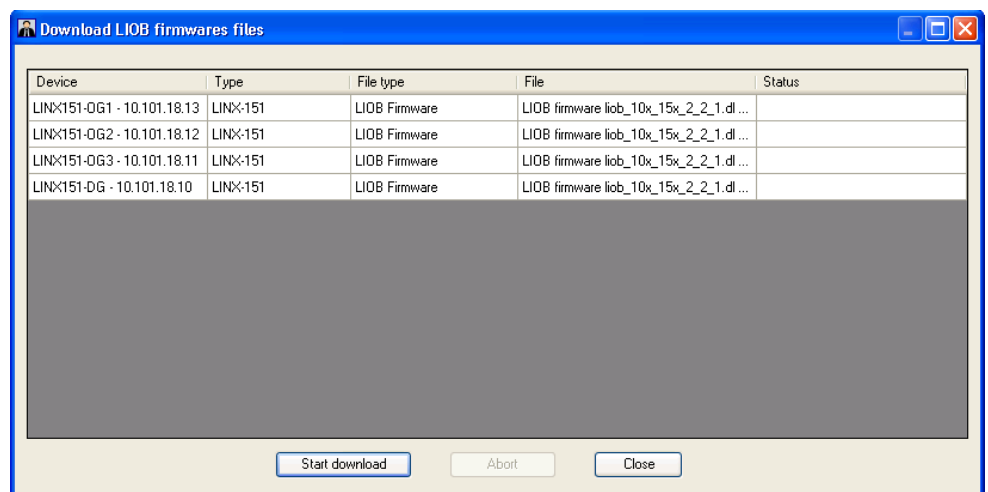

Figure 207: Download L-IOB Firmware File Dialog
2. The **Download L-IOB firmware files** dialog opens as shown in Figure 207. This dialog displays a list of L-INX devices and the L-IOB firmware files which will be downloaded. To start the download press the **Start download** button.